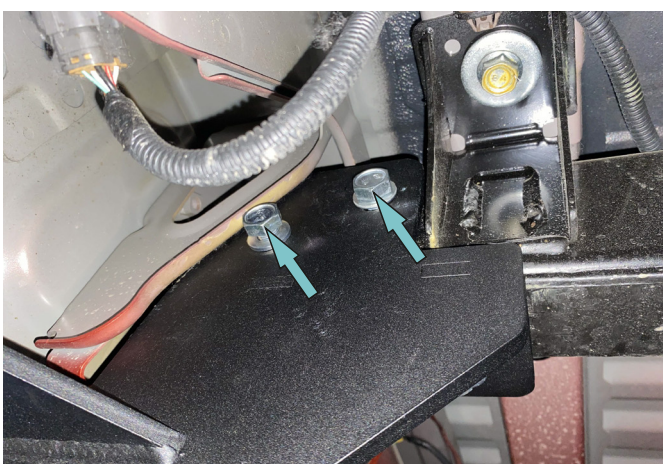

Fig. 11
11. Fix bracket using bolts M12x1.25x40 and washers 12 (item A, J) (Fig. 11).